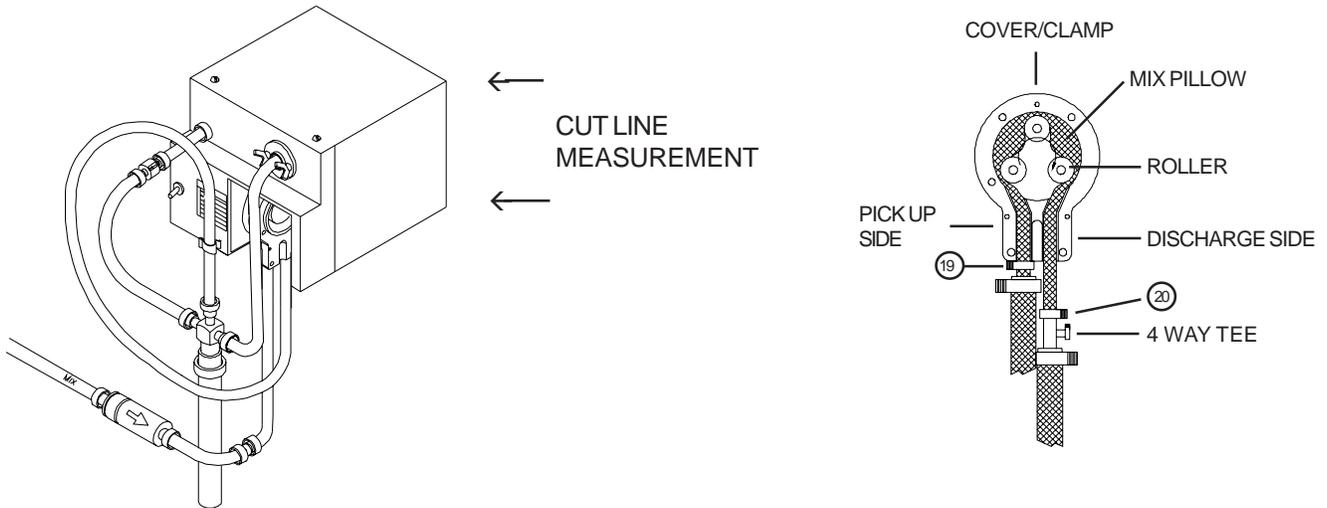

Figure 8. Reposition Mix Pump Hose
5. Cut 7-1/2 inches off the end of the mix pump hose. The height of the pump can be used to measure. See Figure 8.